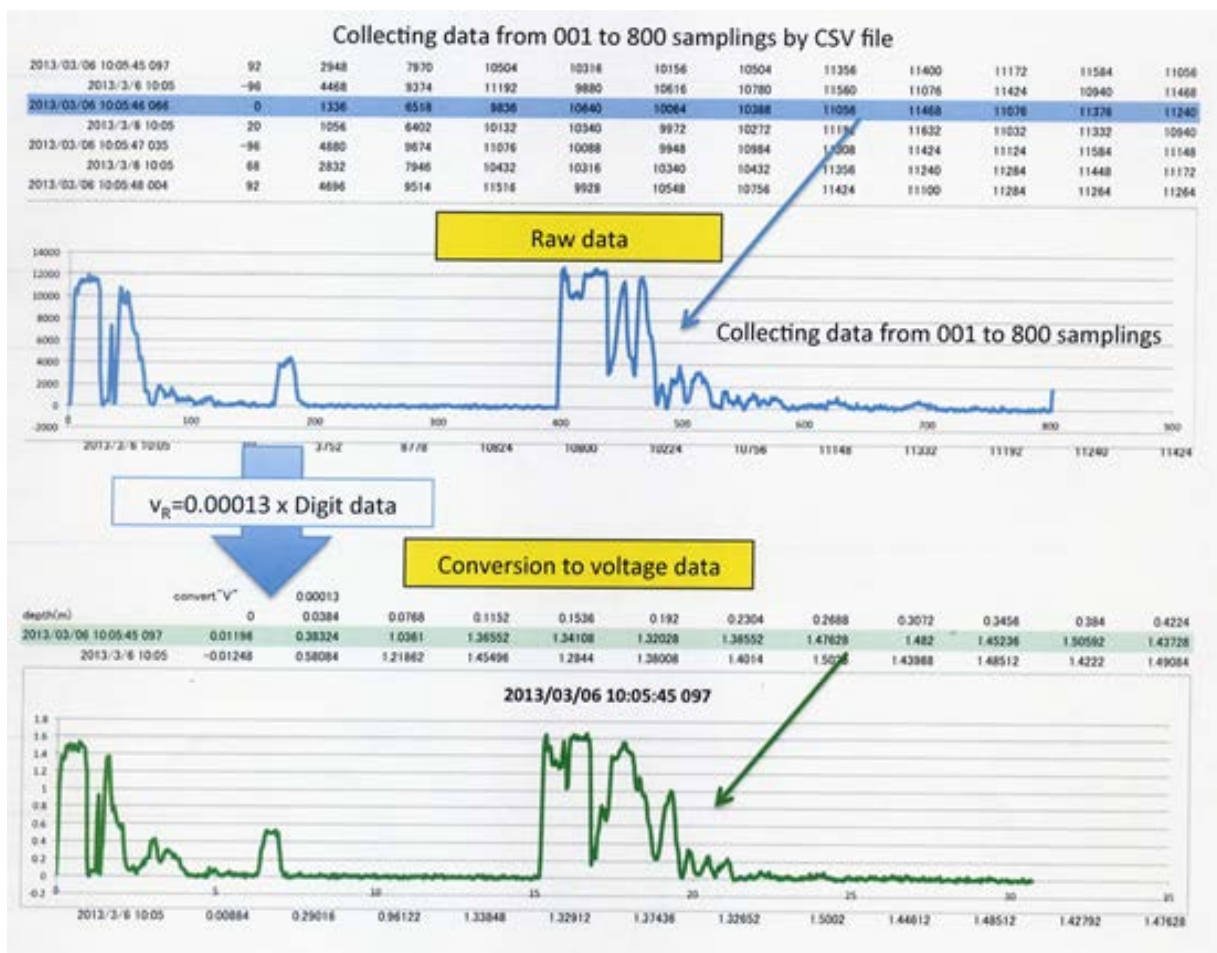

Figure 29. Converting digital data (raw data) in to voltage data.
- 1) Convert digital data (raw data) into voltage data (in terms of linear and decibels), (Figure 29),